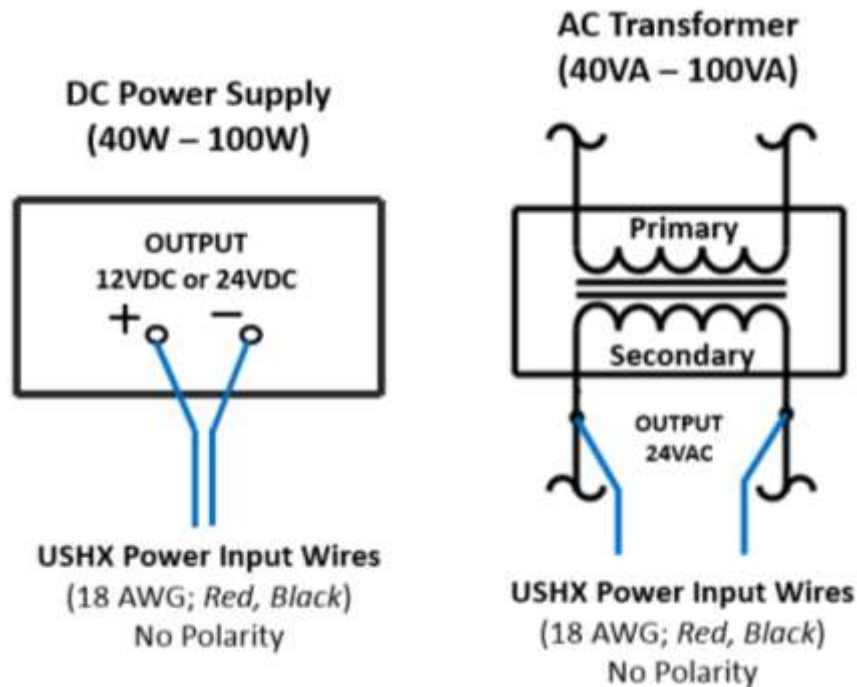

Figure 18 - Class 2 DC and AC power sources
2. Obtain a Class 2 24 VAC transformer with a capacity of 40 to 100 VA and an output of 24 VAC at a frequency of 60 Hz. Alternatively, a 120 VAC to 12 VDC or 120 VAC to 24 VDC Class 2 step-down power supply with a 40 to 100 W power rating may be used. The schematics of the power sources are shown below in Figure 18.